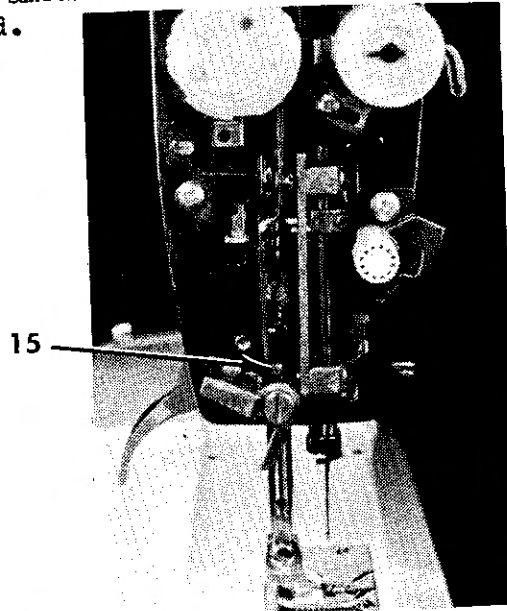

FIG.1
23. The needle bar frame should not be unduly restricted. Set the pattern selector at the zig-zag symbol, remove cam and turn stitch width knob to widest position (4). Turn the handwheel until the needle has just entered the needle plate on the right side. The needle should be just rubbing against the needle plate and when pushed to the left it should bend slightly when against the needle plate. To obtain the right amount of clearance turn screw #15 Fig.1 , until proper clearance is reached.